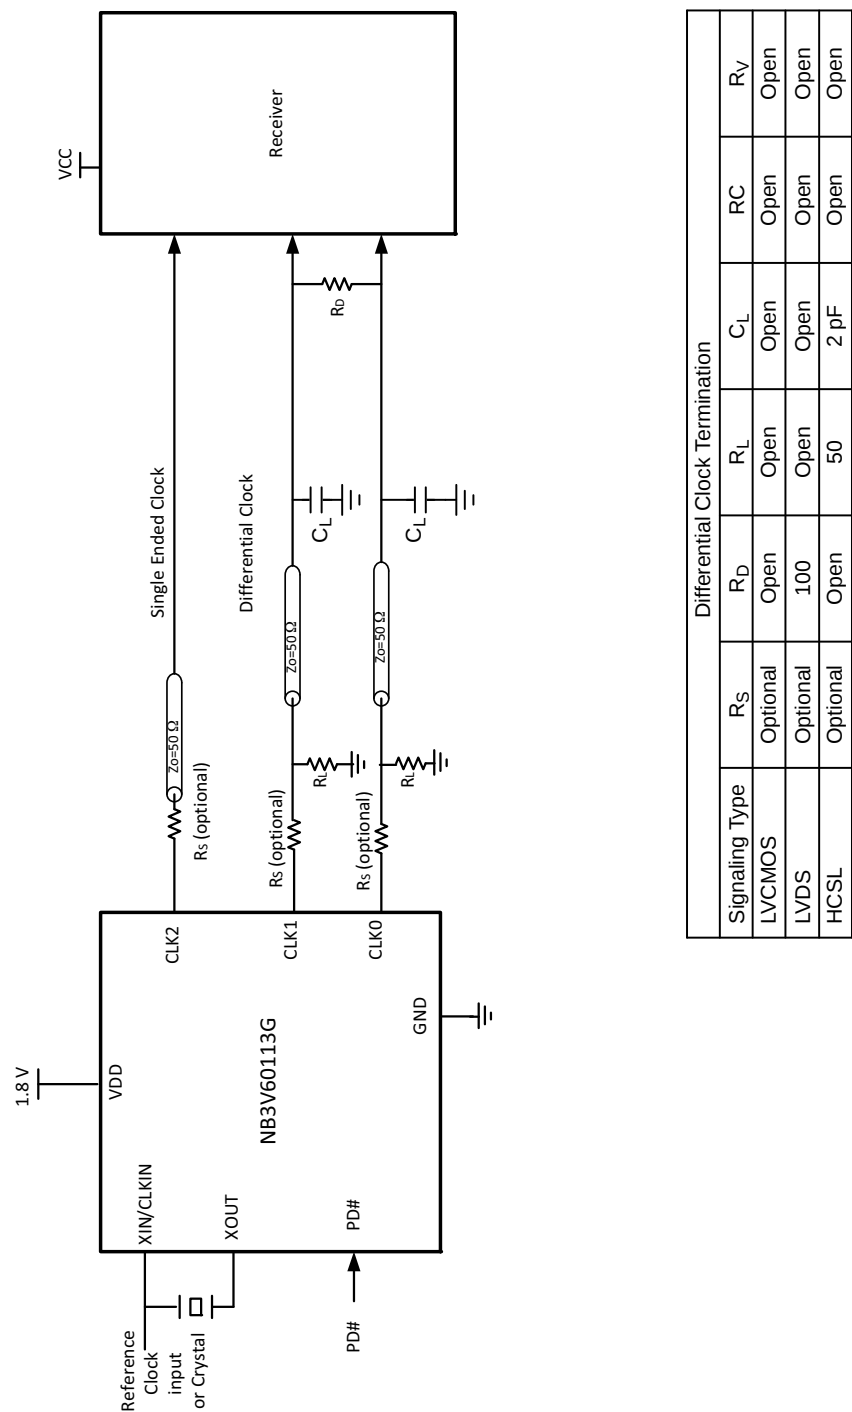

Figure 6. Typical Termination for Single-Ended and Differential Signaling Device Load
16. Measurement taken from single ended clock terminated with test load capacitance of 5 pF and 15 pF and differential clock terminated with test load of 2 pF. See Figures 6, 7 and 10.